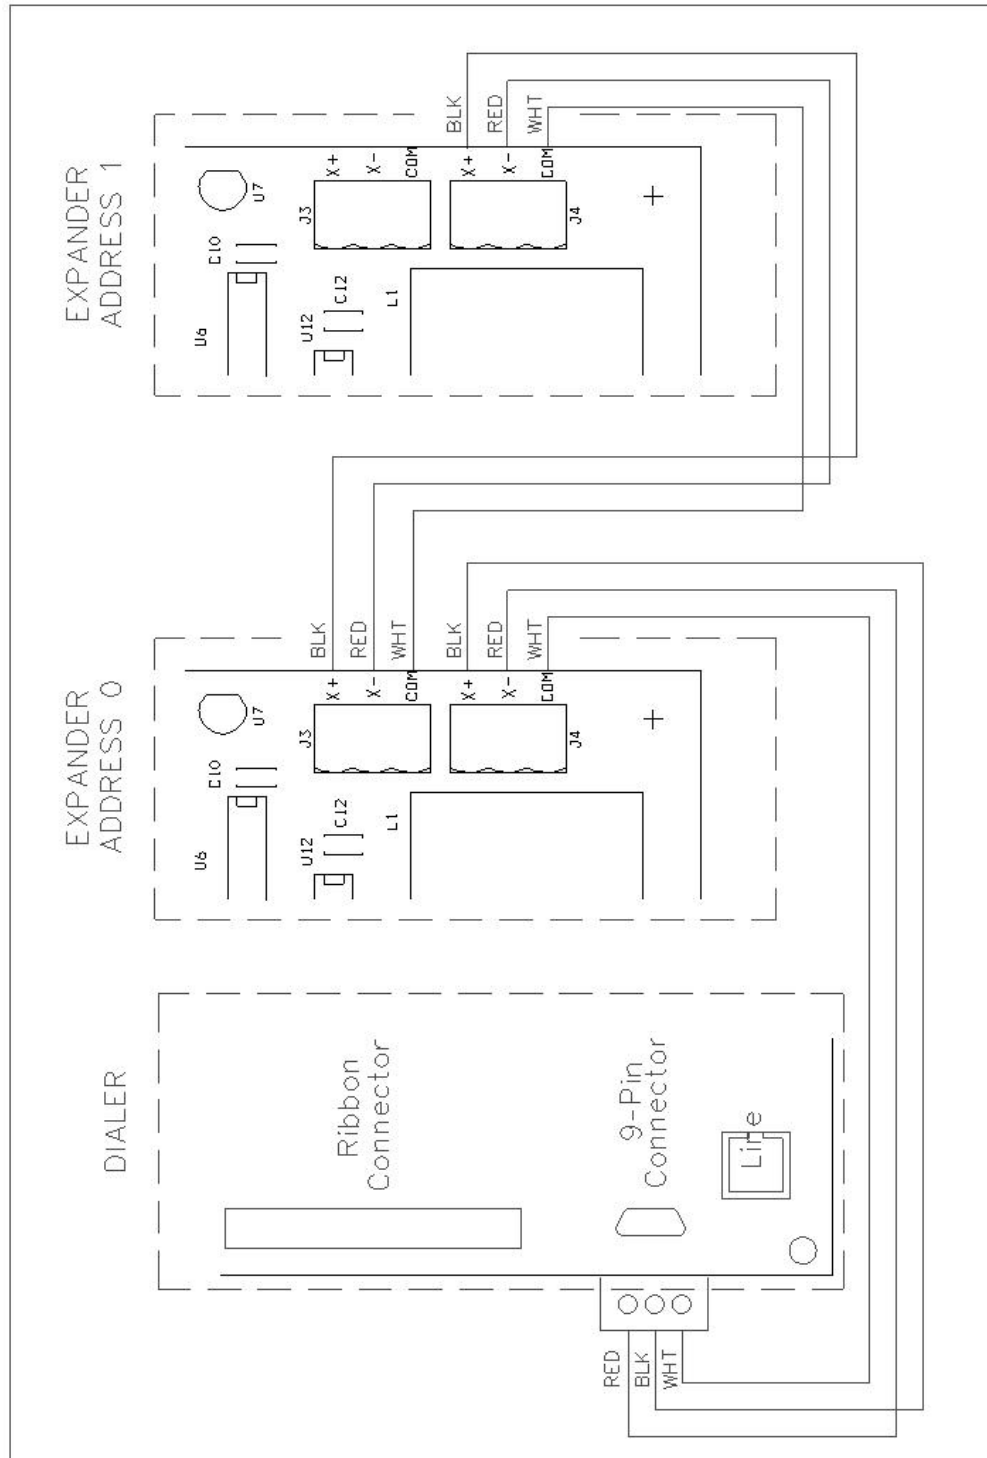

Figure 6. Communications RS-485
3. Connect a local telephone (optional) to the dialer's PHONE jack, as shown in Figure 6 below.